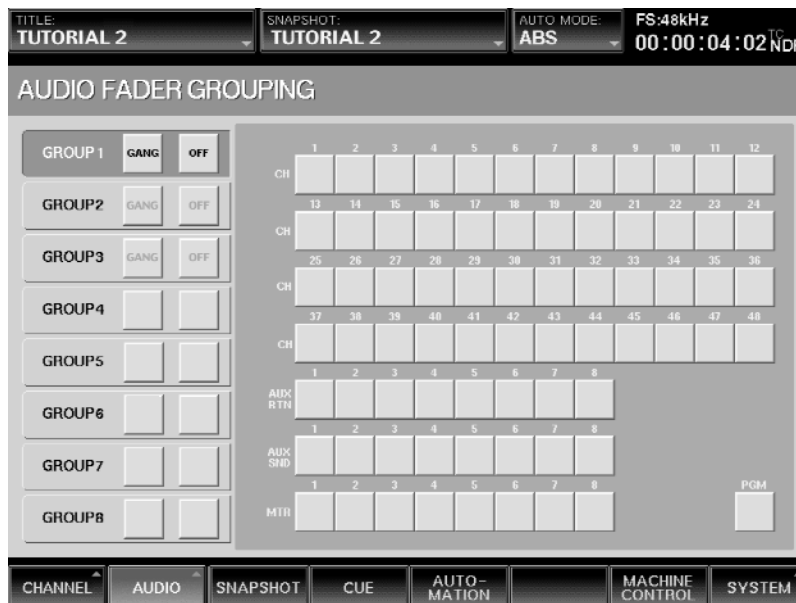

Figure 7
- 3 Press the AUDIO tab at the bottom of the touchscreen. From the pop-up menu select FADER GROUP; the Audio Fader/Cut Grouping window appears. (See Figure 7)